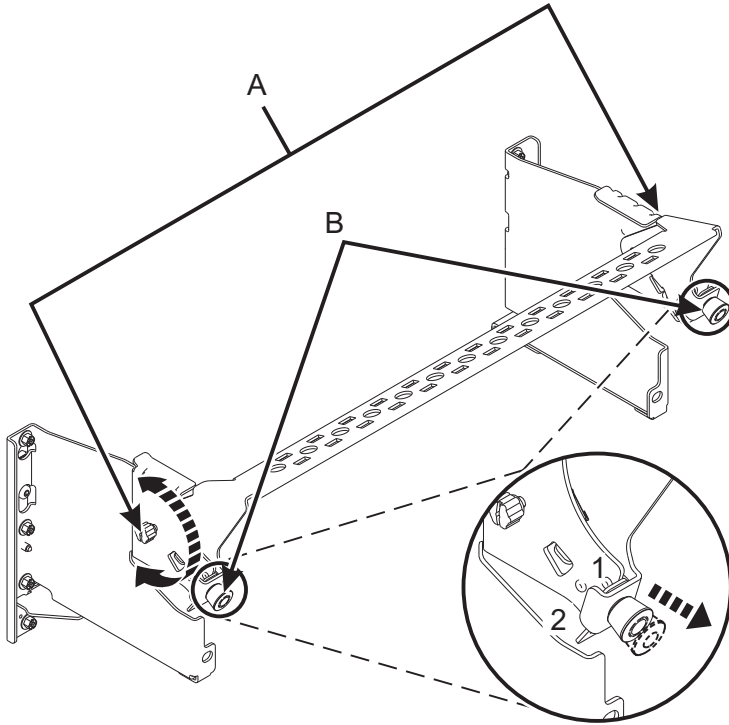

Figure 22. Placing the cable management bracket in the service position
4. Put the cable management bracket in the service position. See Figure 22 on page 21.